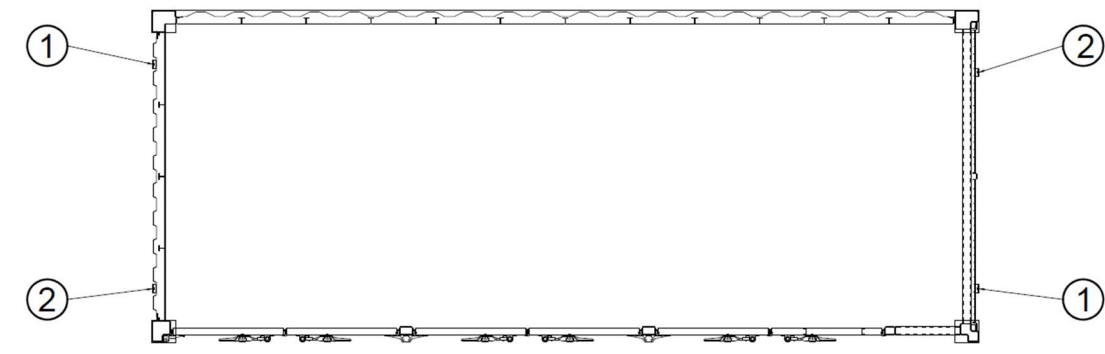

Figure 21: SolBank3.0 series grounding locations.
- ✓ Step 3: Each SolBank3.0 series is equipped with 4 grounding points, and at least one pair of diagonal grounding points (set 1 or set 2) is required for installation, as shown in Figure 21 below.